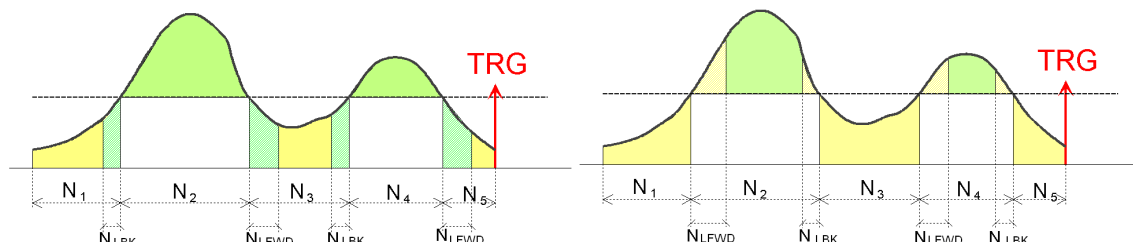

Fig. 8.11: Example of non-overlapping N_{LBK} and N_{LFWD} in case of positive logic (left) and negative logic (right).
1. In the simplest case N_{LBK} and N_{LFWD} **do not overlap**. Fig. 8.11 reports the case of positive logic on the left, and negative logic on the right. The green areas correspond to the over threshold samples, while the yellow ones correspond to the under threshold samples: